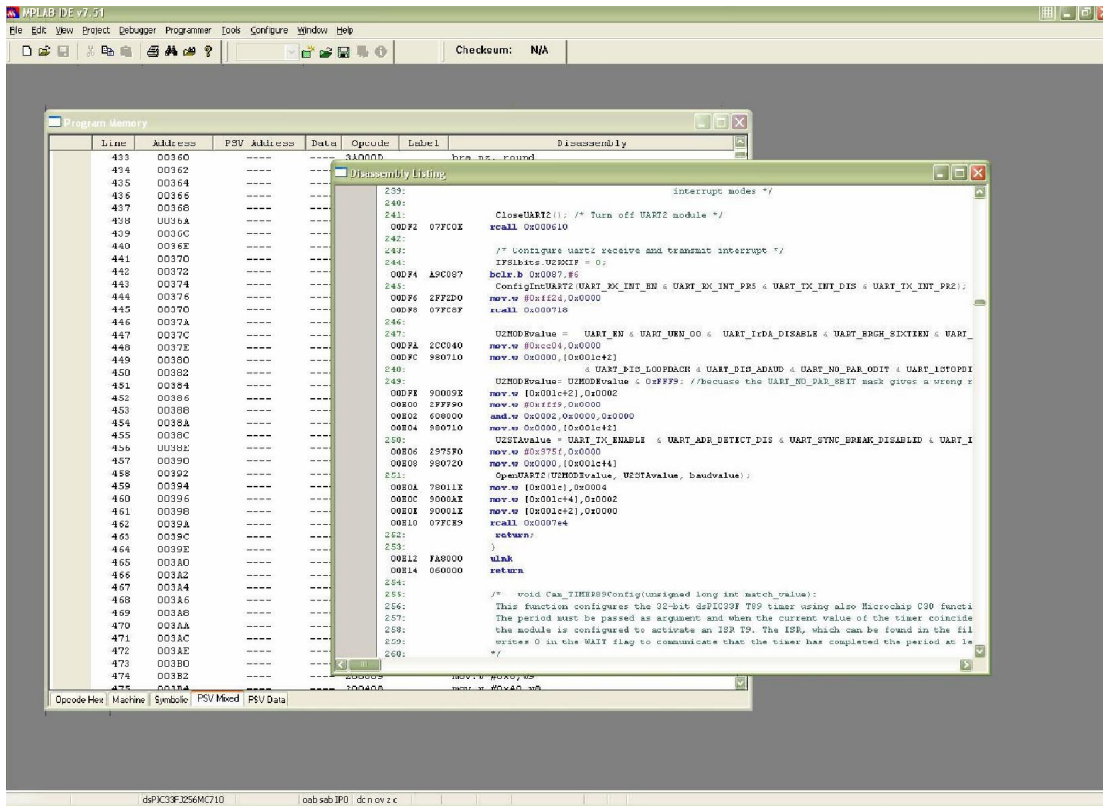

Figure 2 – MPLAB IDE after importing Demo.cof
- Use Microchip MPLAB IDE environment to work on the FLEX side firmware and import the file 'Demo.cof'. Open 'Disassembly Listing' and 'Program Memory' windows to view the code and the debug symbols (refer Figures 2 and 3 below).